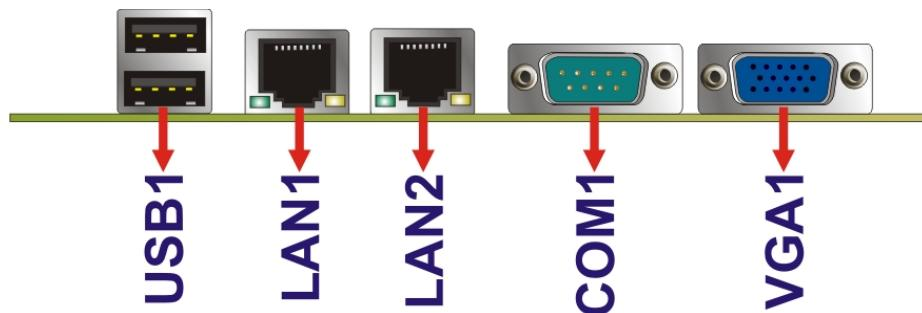

Figure 3-20: External Interface Connectors
Figure 3-20 shows the WAFER-PV-D4251/D5251/N4551 motherboard external interface connectors. The WAFER-PV-D4251/D5251/N4551 on-board external interface connectors are shown in Figure 3-20.
**CN Location:** See **Figure 3-20**
**CN Location:** See Figure 3-20